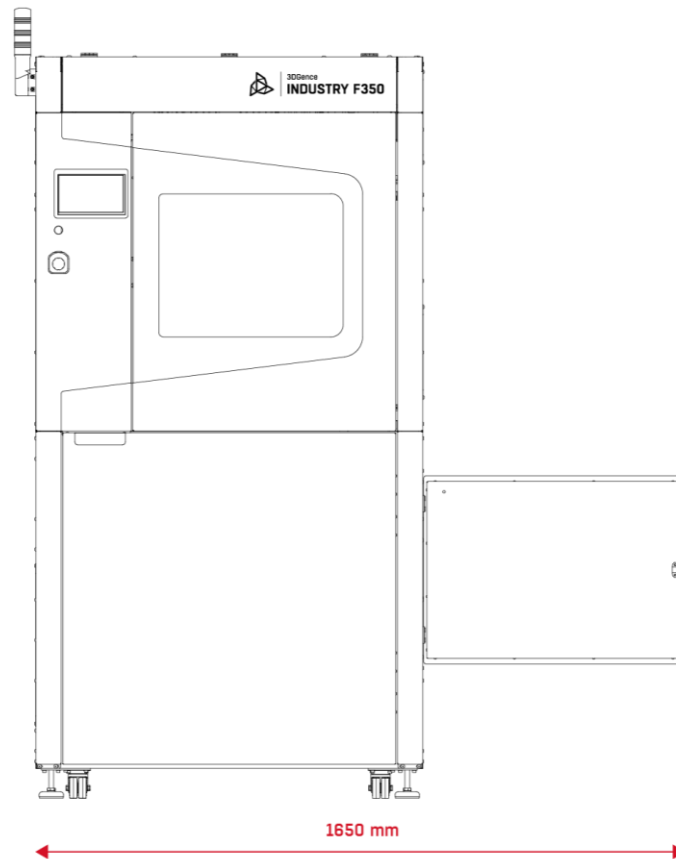
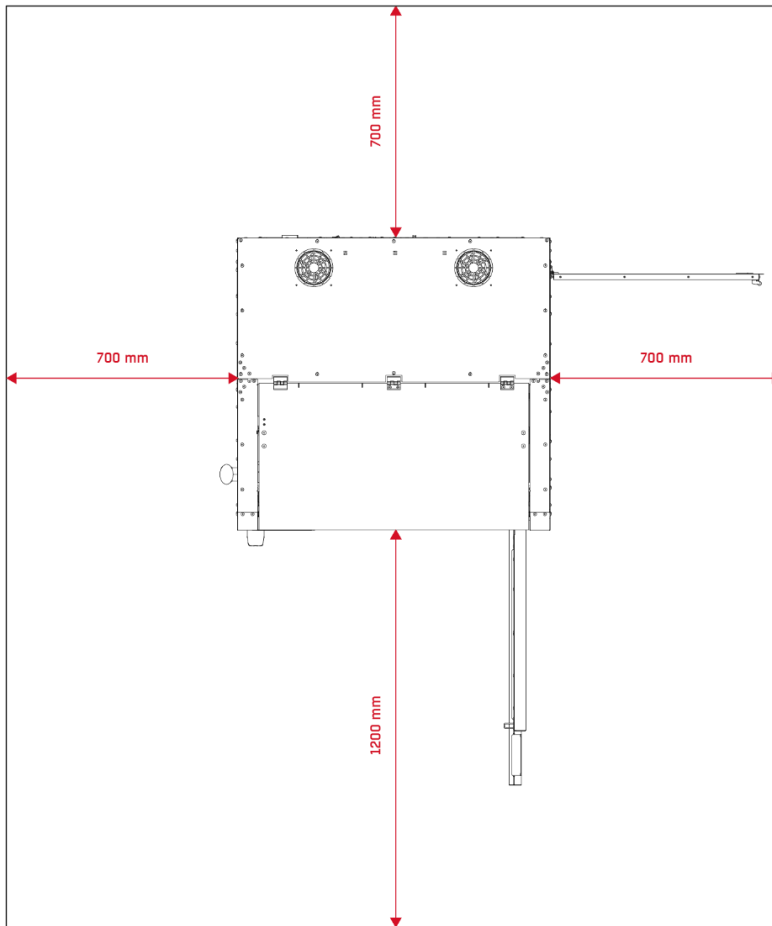

Fig. 3 Maximum printer size (width)
Fig. 5 Minimum clearances to be kept on all sides of the device
- provide enough clear space around the printer based on the overall dimensions of the device (Fig. 3, 4); additionally, you ensure access to all sides of the printer to allow replacement of consumables or maintenance work as recommended by the manufacturer (Fig. 5, 6),
1. Move the printer to the desired location and make sure that the minimum space requirements are met (Fig. 5, 6).